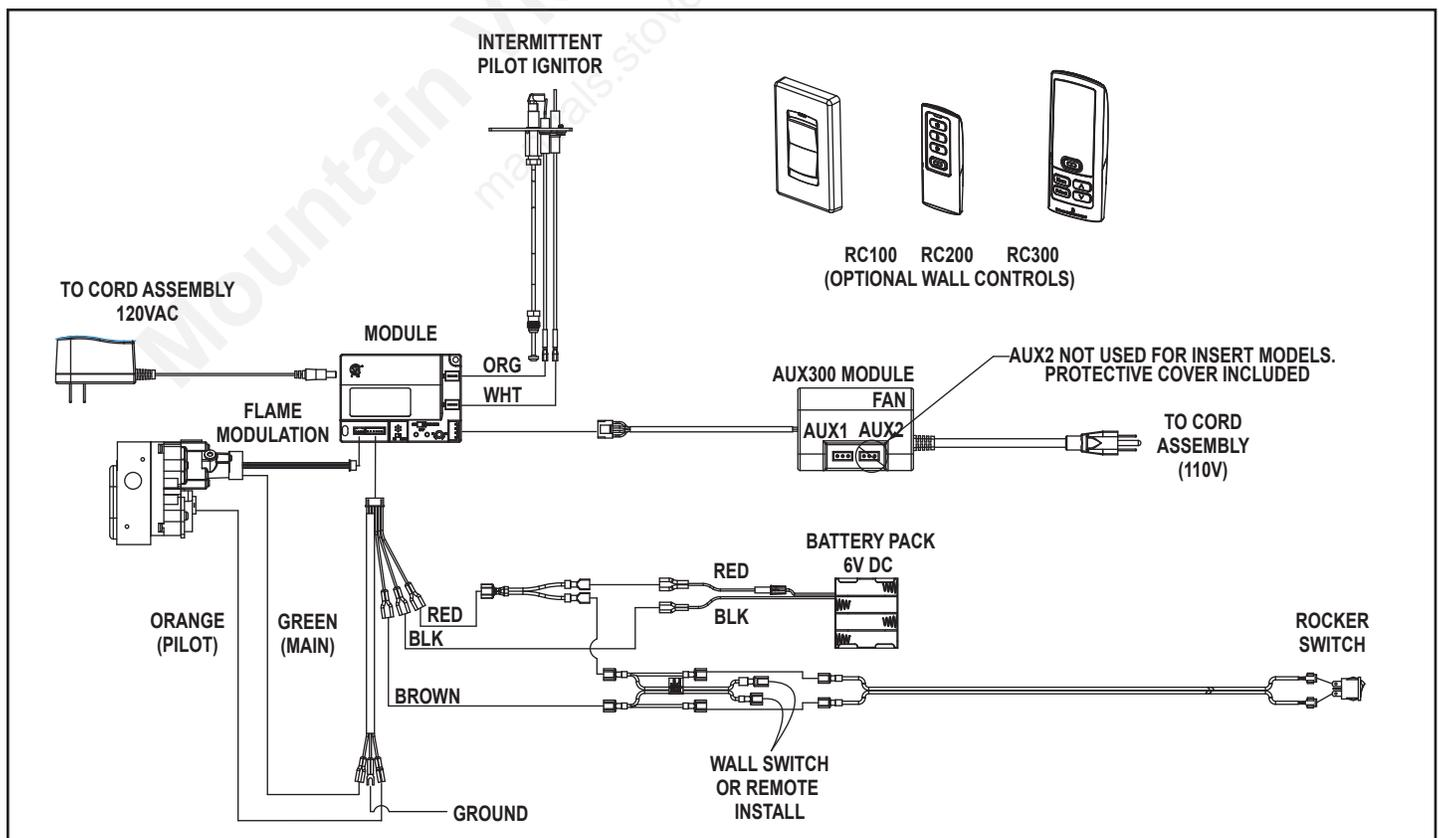

Figure 10.1 IPI Wiring Diagram
- This appliance comes standard with a 120 VAC cord assembly which has a female plug in to accommodate all control options and accessories. See Figure 10.1. This is required for proper operation of the appliance (IntelliFire Ignition). An outlet box may be installed in a bottom back corner of the existing solid fuel masonry or factory built fireplace to plug in the cord assembly, or the supplied power cord may be routed out onto the hearth to a nearby outlet.
- Refer to Figure 10.1, IPI Wiring Diagram.
- If desired an additional wall switch or thermostat may be added to system as shown in Figure 10.1.